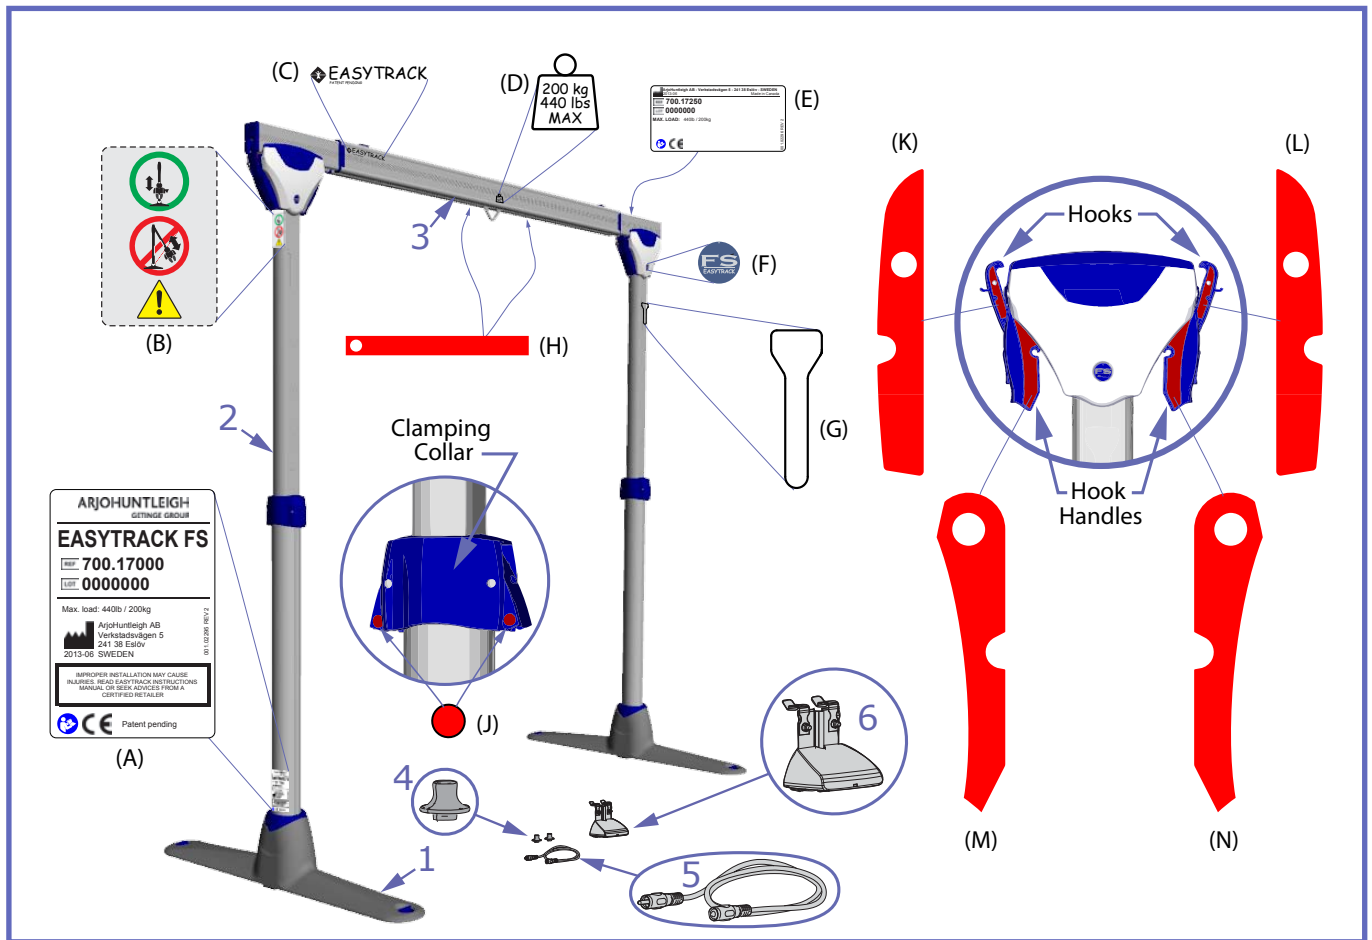

Fig. 1
**WARNING:** Never use, store or carry the *EASYTRACK FS REP* when a red marker is visible. Serious injuries could occur. Refer to “Fig.1” on page 5 for location of red markers.